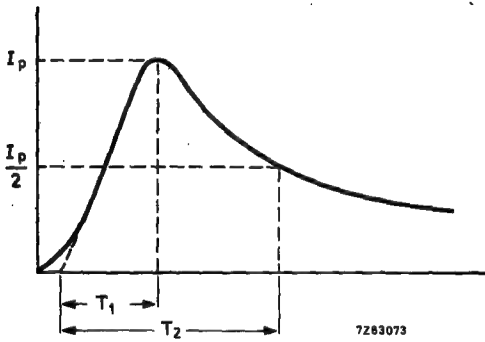
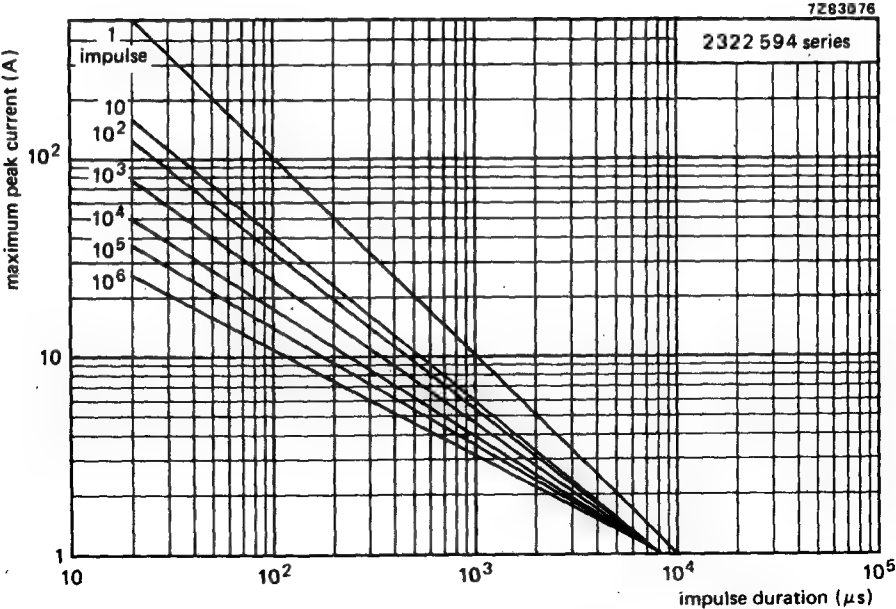

Fig. 4
Fig. 5 Max. applicable transient current as a function of impulse duration.
\* This current is determined by the width  $T_2$  (see Fig.4) and the number of impulses expected during the life of the component. Fig.5 gives the derating for different numbers of impulses. Resulting energy can be calculated with the equation:  $E = K \cdot V_p \cdot I_p \cdot T_2$ .
4. High energy surges are generally of longer duration. The max. energy for 1 impulse 10 / 1000  $\mu$ s is given as a reference for long duration impulses. This impulse can be characterized by peak current  $I_p$  and impulse width  $T_2$  (virtual time to half  $I_p$  value following IEC 60-2 section six), see Fig. 4. If  $V_p$  is the clamping voltage corresponding to  $I_p$ , the energy absorbed in the VDR is determined by equation  $E = K.V_p.I_p.T_2$ ; K depends on  $T_1$  when  $T_1$  is 8 to 10  $\mu$ s: for  $T_2 = 20 \mu$ s  $K = 1$ ; for 50  $\mu$ s 1,2; for 100  $\mu$ s 1,3; for 1000  $\mu$ s 1,4.